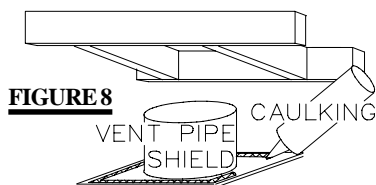
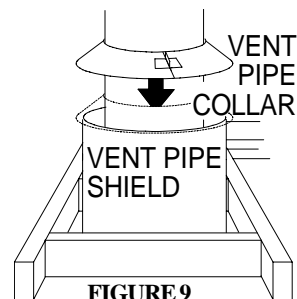

FIGURE 8
FIGURE 9
A vent pipe shield will prevent any materials such as insulation, from filling up the 1" air space around the pipe. **FIGURE 9.** Nail headers between the joist for extra support.
2. Apply a bead of caulking (not supplied) to the framework or to the Wolf Steel vent pipe shield plate or equivalent (in the case of a finished ceiling), and secure over the opening in the ceiling. **FIGURE 8.** A firestop must be placed on the bottom of each framed opening in a roof or ceiling that the venting system passes through. **FIGURE 9.** Apply a bead of caulking all around and place a firestop spacer over the vent shield to restrict cold air from being drawn into the room or around the fireplace. Ensure that both spacer and shield maintain the required clearance to combustibles. Once the vent pipe / liner is installed in its final position, apply sealant between the pipe / liner and the firestop spacer.